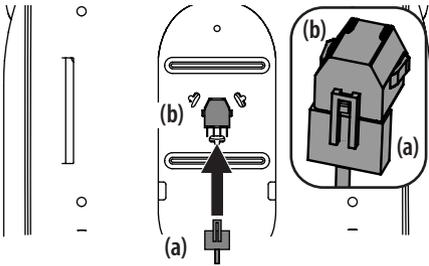

Figure 5
3. If necessary, securely connect the seat switch wiring harness (a) to the seat switch (b). See Figure 5 on page 9. Secure excess wire away from pinch points before continuing.